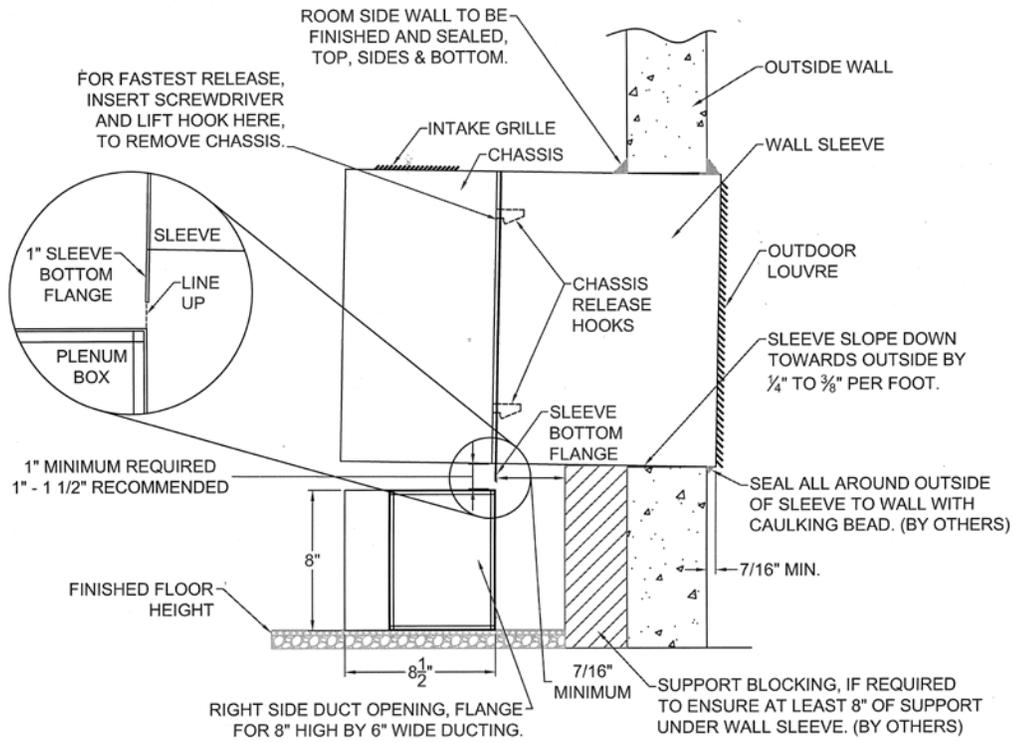

Fig. 4.
The wall sleeve is 16- 1/2" high X 42-1/4" wide X 12 -7/16" deep, and is to be built into the wall during construction. The rough opening in the wall should be 16-7/8" high (to allow for slope on the sleeve) and 42-1/2" wide. At the inside wall, the distance from the bottom of the wall opening to the top surface of the finished floor (including any carpet) must be a minimum of 9" (see Fig. 4). A height of 9" to 9.5" is recommended to allow the plenum box to rest right on the finished floor, and will also permit the telescopic plenum collar to properly engage the indoor blower outlet, upon installation. The wall sleeve is used for all wall thicknesses from 2" through 11-13/16" maximum. The heating/cooling chassis slides into the wall sleeve and locks in place using self-acting spring-loaded hooks (see Fig. 2).
The wall sleeve should penetrate into the room by at least 7/16" as measured at the bottom of the sleeve, as long as there is a minimum protrusion of the sleeve top rear edge past the outside wall of at least 7/16", which will create a fillet to receive the bead of caulking that must be applied around the entire perimeter in order to seal the sleeve to the outside wall (see Fig. 4).
- a) The wall sleeve should penetrate into the room by at least 7/16" as measured at the bottom of the sleeve (see Fig. 4). The room-side opening must be sealed to the wall sleeve and finished all around the top, sides and bottom, to complete the installation.
- b) The outdoor louver must extend beyond the outside wall (no recess). Set a minimum protrusion of the sleeve top rear edge past the outside wall of at least 7/16", which will create the fillet necessary to receive a bead of caulking around the entire perimeter in order to water seal the sleeve to the outside wall (see Fig. 4).
- e) There should be at least 8" of the wall sleeve bottom supported. Add blocking if necessary to achieve this objective (see Fig. 4).